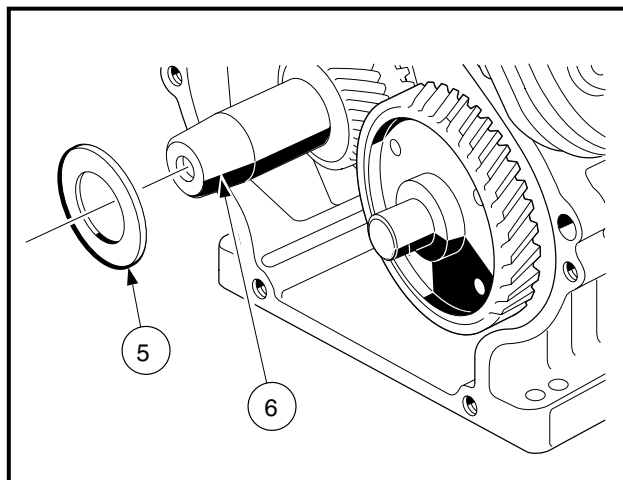

Figure 2-94 Install Shim on Crankshaft
5. Install the shim (5) on the crankshaft (6) (**Figure 2-94, Page 2-41**).